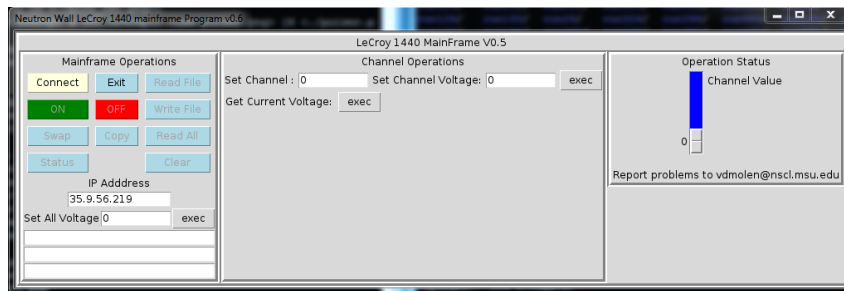

Figure 1: HV control window.
2. Type wish LeCroy1440.tcl and a GUI should appear (see Fig. 1).